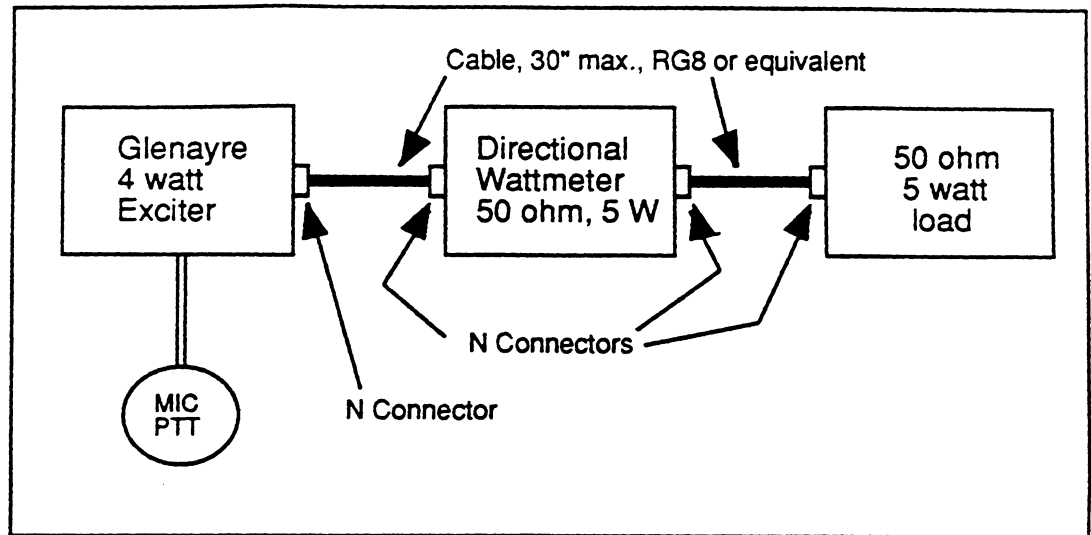

Figure 6-1 : Exciter Test Configuration
1. Set up the exciter and test equipment as shown in Figure 6-1.